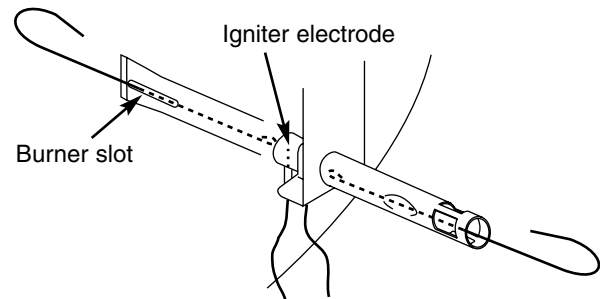

Figure 13
5. Use the burner cleaning tool provided to clean the air shutter area, the venturi section, and the burner slots on the inside of the bowl. **Be careful when inserting the burner cleaning tool not to damage the igniter electrode.** Figure 13.